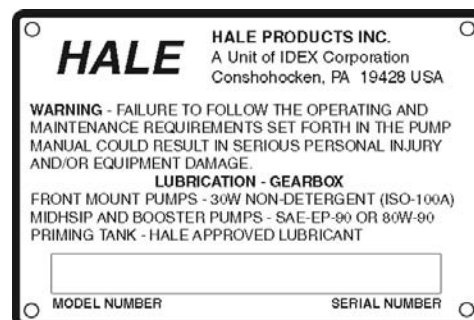

Figure 5-1: Sample, Serial Nameplate
- ❑ Pump model and serial numbers - see Figure 5-1: “Sample, Serial Nameplate”